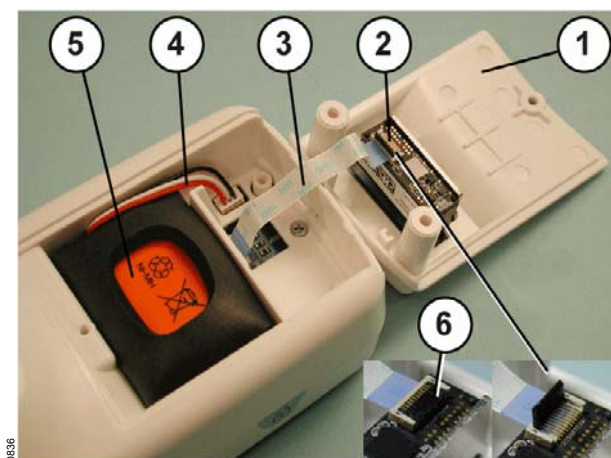

Fig. 9 Battery
2. Open the bar code reader cover (Fig. 9/1).
3. Lift the connector lever (Fig. 9/6) and remove the flexible cable (Fig. 9/3) from the connector (Fig. 9/2) of the bar-code reader (for product with bar-code reader), and then remove the bar-code reader cover (Fig. 9/1).
4. Remove the battery harness (Fig. 9/4) from the connector on the Main PCB, and then remove the battery (Fig. 9/5).